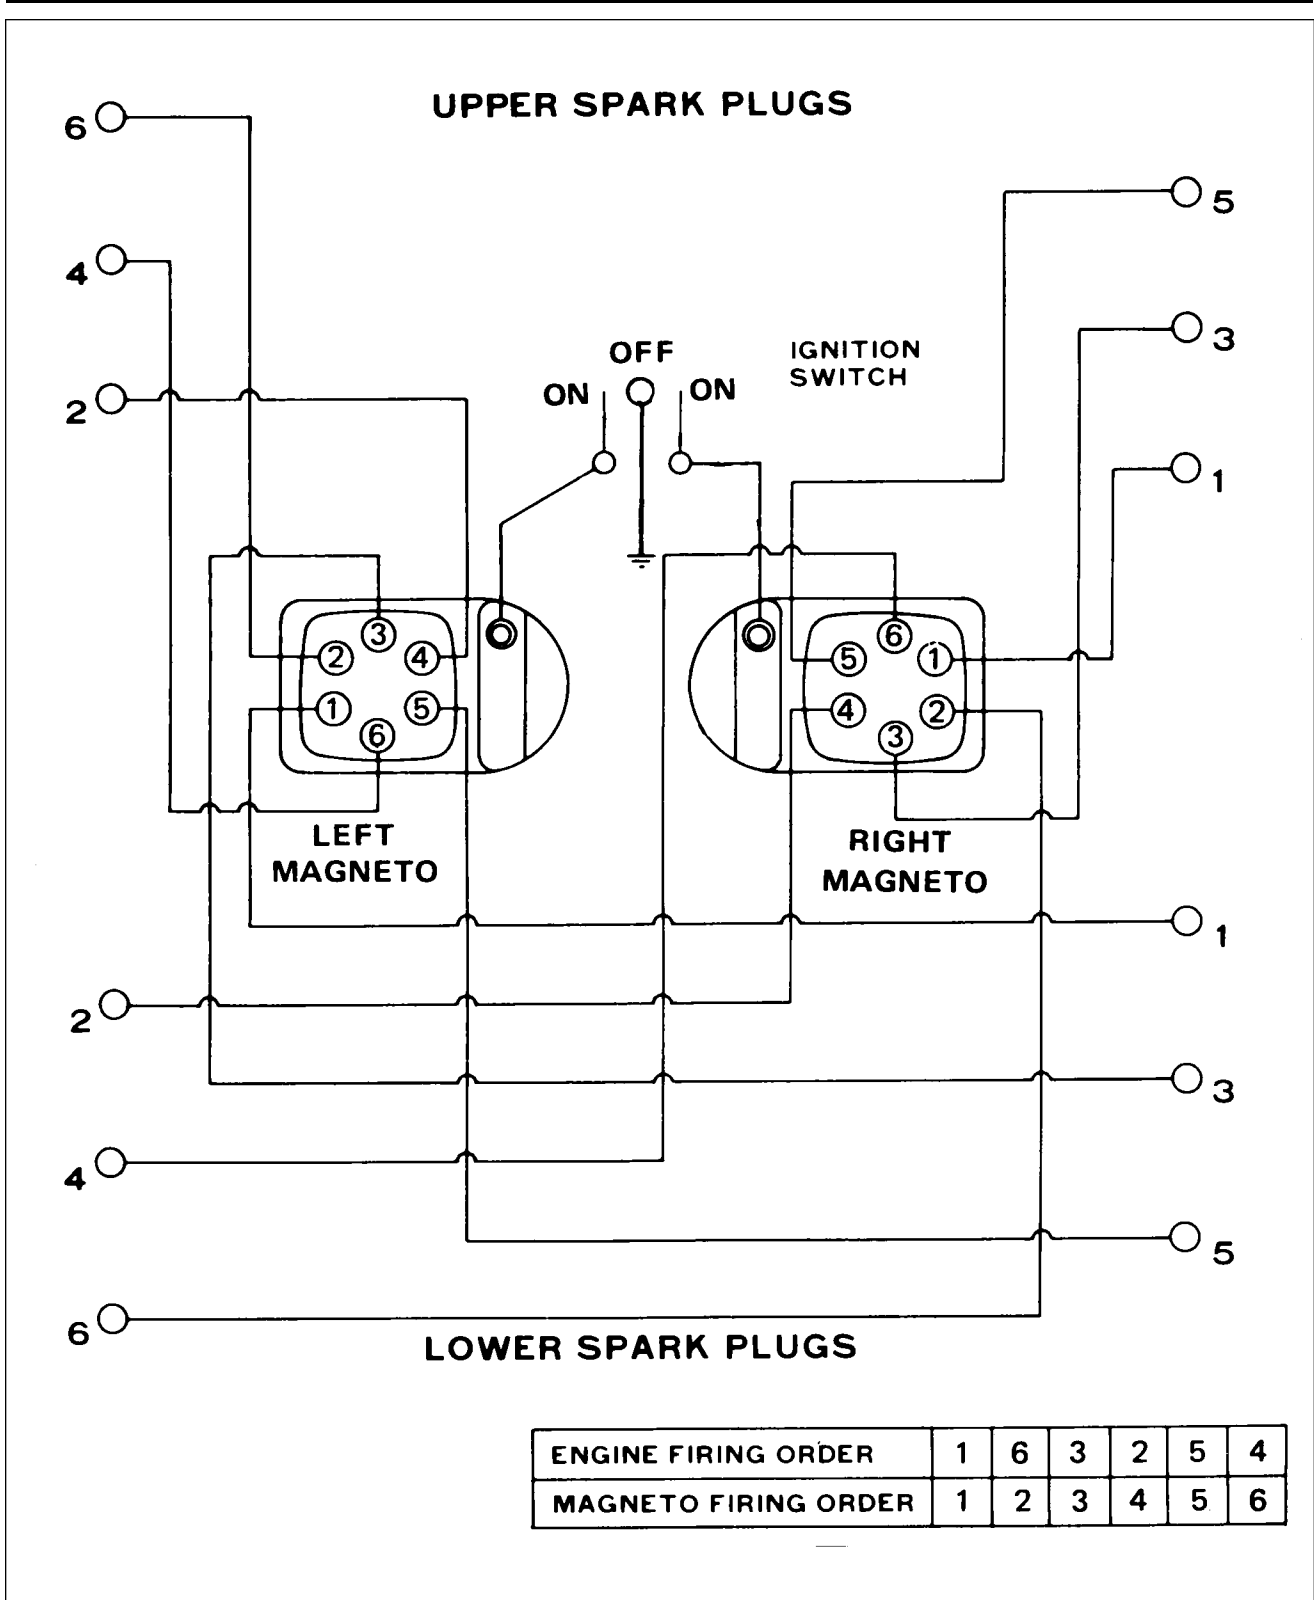

Figure 74-21. Ignition Schematic
2. Route the ignition wires to their respective cylinders as shown in Figure 74-21.